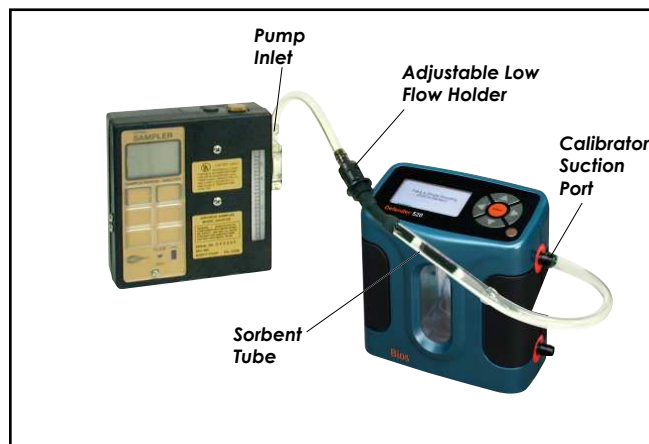

Figure 2. Defender Primary Standard Calibrator and Universal Series pump connected in a sorbent tube calibration train
2. Setting Up the Calibration Train (Figure 2)